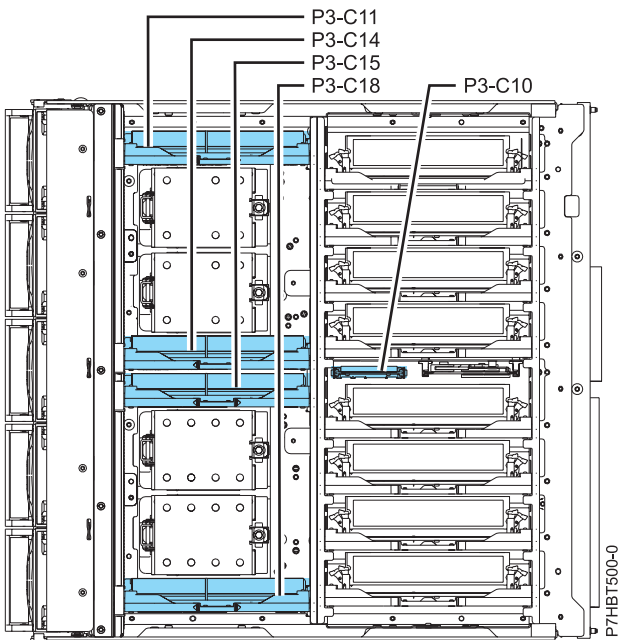

Figure 7. Memory voltage regulator module at location C10
10. Locate the memory voltage regulator module to be removed from the system processor assembly. Figure 7 shows the memory voltage regulator at location C10 in relation to the system processor assembly.